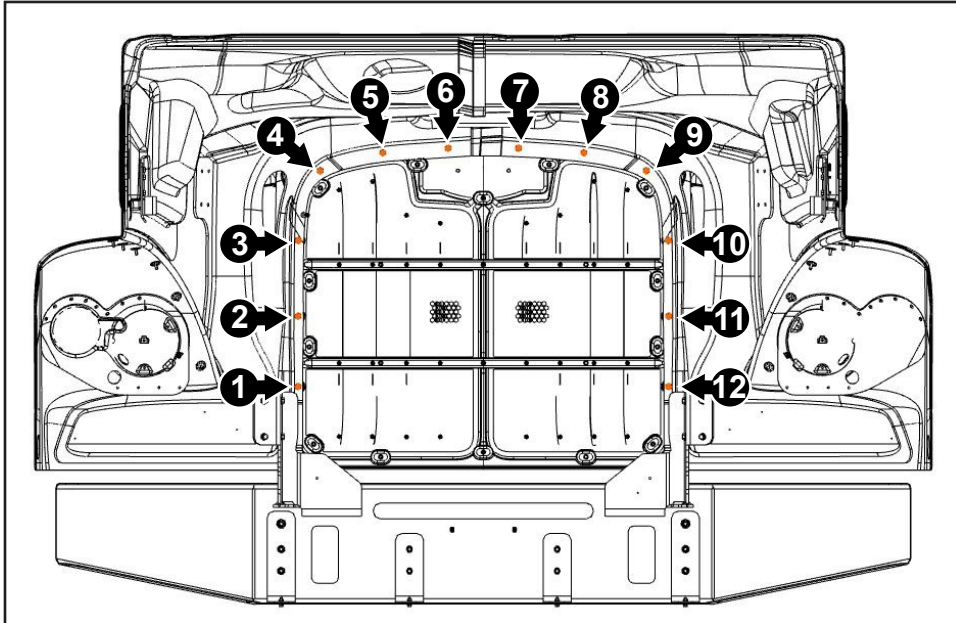

Figure 1
3. Working from inside the raised hood remove (12) fasteners and set aside for reinstallation (see Figure 1).